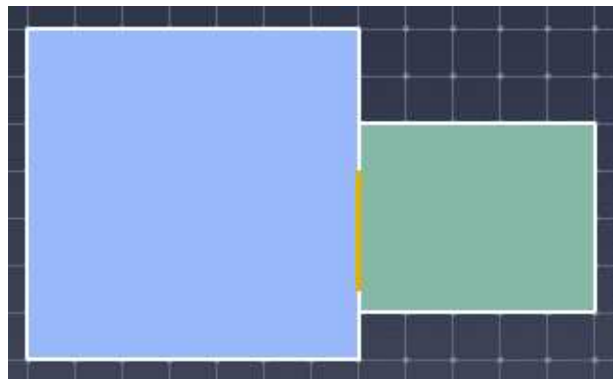

Figure 51. Adding a thin door to connect the rooms
3. The created door will appear as a thin, orange line in the 3D and 2D views as shown in Figure 51.